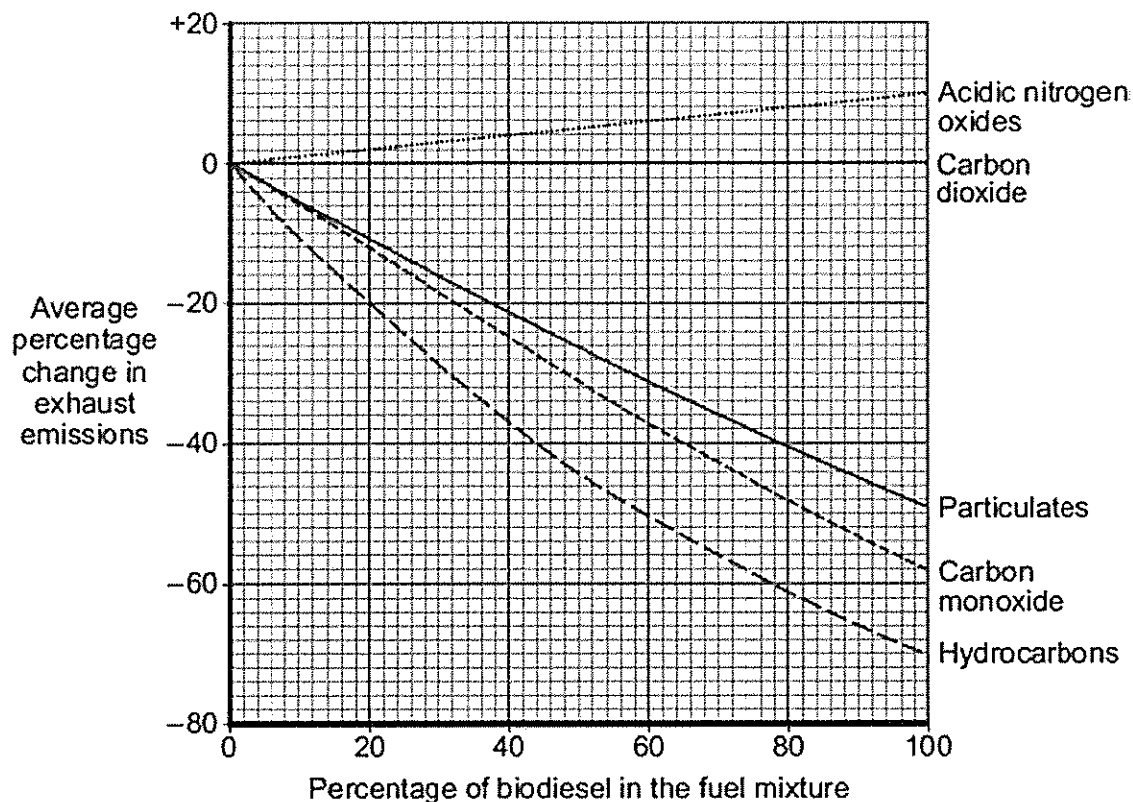

Fig. 9.1
Fig. 9.1 shows the average percentage change in exhaust emissions from vehicles using different mixtures of petroleum-based diesel and biodiesel.
- (a) (i) With reference to Fig. 9.1, describe how the average percentage changes in the exhaust emissions of acidic nitrogen oxides and carbon monoxide vary as the percentage of biodiesel in the fuel mixture increases.